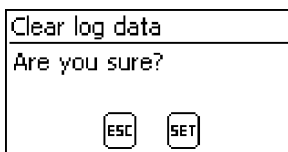

Fig. 10: Clear event log dialog
1. Press 'SET'. Fig. 10 appears.